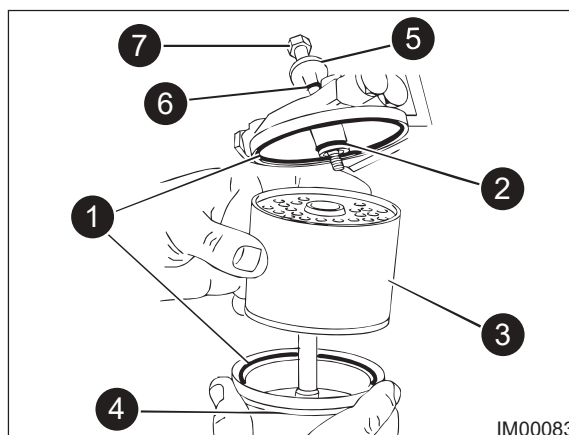

Fig: 11.21 - Fuel Filter Elements
7. Assemble the following items (Fig: 11.21): seals (Items 1), seal (Item 2), canister (Item 3) and bowl (Item 4). Place washer (Item 5) and seal (Item 6) on setscrew (Item 7).
8. Fasten the assembly to the fuel filter base with setscrew (Item 7, Fig: 11.21).